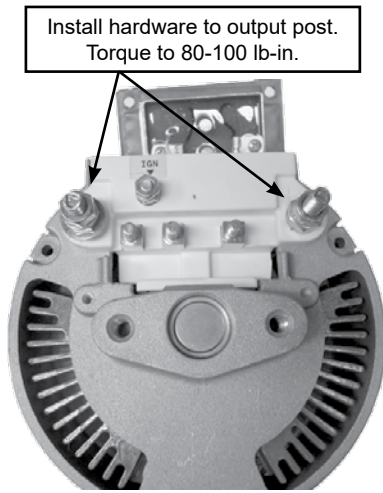

Fig 9
Step 10: Flip alternator over and install hardware to alternator output studs. See Fig 9.